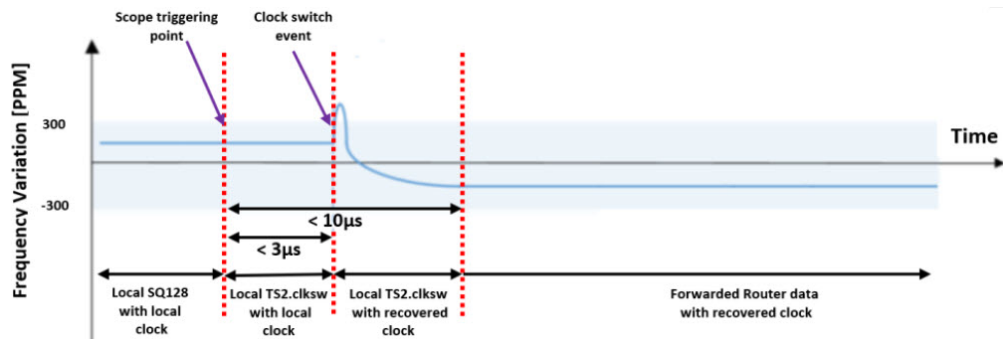

Figure 54 Frequency variation dynamics example
- 5 Capture the clock switch event over three stages: pre-clock switch, clock switch, and post-clock switch in a single waveform as depicted in Figure 54.